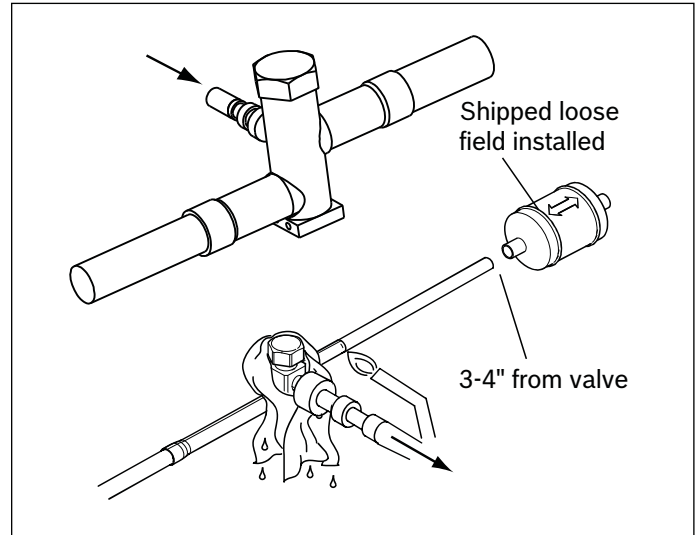

Figure 18
4. Wrap a wet rag around the valve body to avoid heat damage and continue the dry nitrogen purge (Fig. 18).